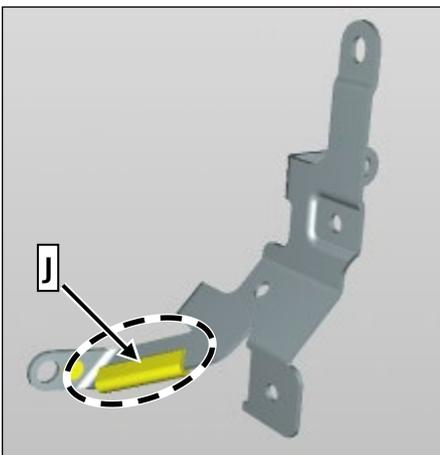

Figure 11
12. Mount supplied edge guard on new right holder (J, Figure 11).